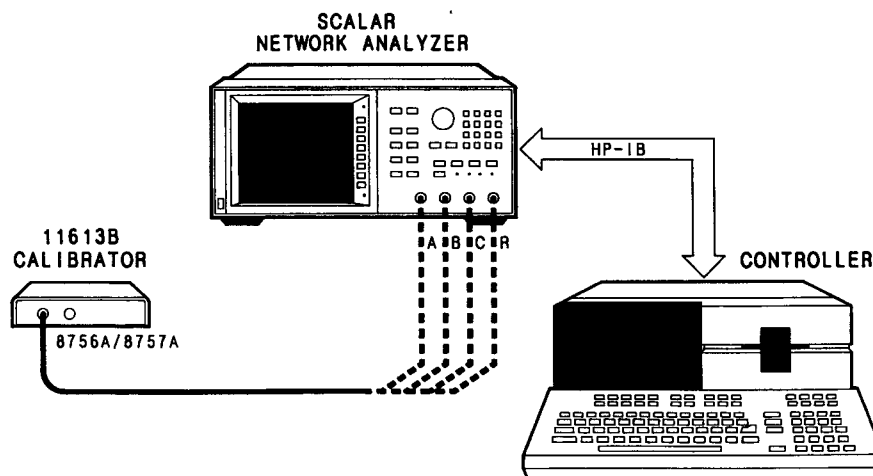

Figure 3-4. HP 8757A Calibration Setup
1. Connect the equipment as in Figure 3-4. Allow one hour warm-up.
If any input can be calibrated when another cannot, suspect the log amplifier and its associated input amplifier on the ADC board. Refer to Figures 3-6 through 3-13 to see the Uncorrected Log Data plots and failure messages associated with different log amplifier failures. Figure 3-4 is a typical plot of a normal input. Refer to Table 3-2 for additional information as required.